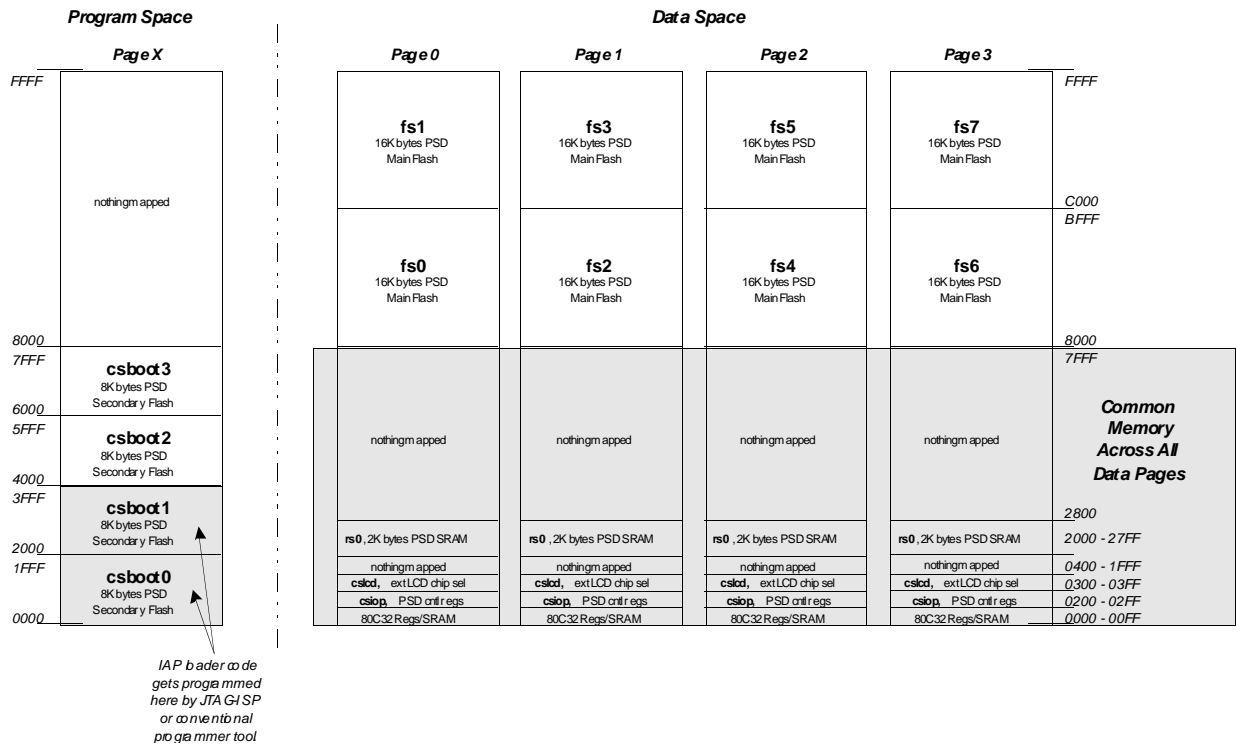

Figure 6 – Memory Map at Boot-Up or Reset and During IAP.
Figures 6 and 7 represent the system memory maps for this design. These maps have paged memory in the upper address range of 8000 to FFFF hex, and common memory in the lower range of 0000 to 7FFF hex. In Data space, the 80C32 has access to system SRAM and I/O regardless of what memory page is active. In Program space, the firmware in the secondary PSD flash memory (csboot0 – csboot3) is available to the 80C32 regardless of what memory page is active. This common Program area holds the following:
Figure 6 represents the system memory map at power-up and after reset. This map is also valid during IAP. Notice that all of the main PSD flash memory is initially in Data space so that the 80C32 can write to it during IAP. Also notice that all of the secondary PSD flash memory is initially in Program space so the 80C32 can execute code from it during IAP. The choice for this initial placement of memory in Program or Data space is made within PSDsoft Express ('Define MCU and PSD' in flow diagram).
- Fig 6 - at power on or after reset, the 80C32 boots from secondary PSD flash memory
- Fig 6 - 80C32 runs a checksum of the main PSD flash memory in Data space
- Fig 6 - If needed, 80C32 programs and verifies main PSD flash in Data space via the UART
- Fig 6 - 80C32 writes 06 hex to the VM register to place main PSD flash into Program space
To implement the memory map with paging techniques shown in Figures 6 and 7, invoke PSDsoft Express, open the project “simple32” from the first design example. Now pull down the menu ‘Project’ from the top of the screen, and select ‘Save As’. For this second design example, save the first project under the new name “page32”.
There are a total of four memory pages used in Figures 6 and 7, so you will need to define two PSD page register bits for paging ($2^2 = 4$). To do so, click on pgr0 and pgr1 as shown below, then click ‘Next>>’.
The chip-select equations for PSD SRAM (rs0), PSD control registers (csiop), and the external LCD module (cslcd) do not change from the first design example. Only chip-selects for main PSD flash memory will change because they are now paged in this design. Define the internal PSD main flash memory chip-select signals to implement the memory map of Figures 6 and 7. The following illustrates how the chip-selects will look when you enter their definitions:
Continue defining fs4 and fs5 on memory page 2, and fs6 and fs7 on memory page 3. The chip-selects for csboot0 through csboot3 did not change from the first design example because no page number was specified in their definition. This means they will appear to the 80C32 on any memory page as indicated in Figures 6 and 7. Click 'Done' to get the main flow diagram.